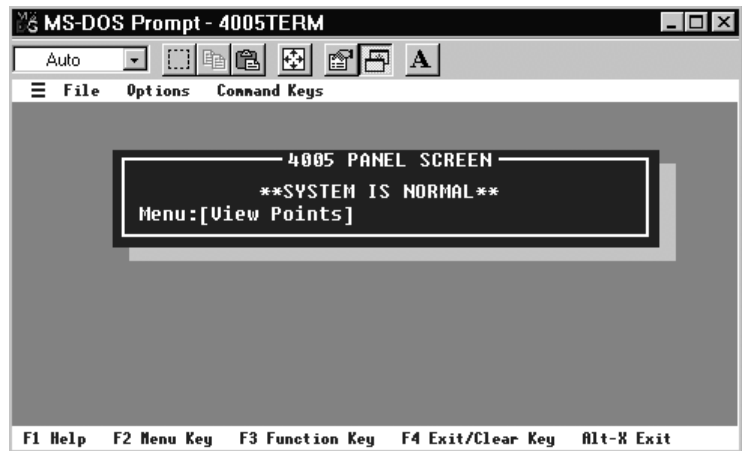

Figure 9. 4005 Panel LCD and PC Panel Screen Displays.
- a) Press **F2** (Menu) to start at the top of the Main Menu structure. Note that the PC screen shows the same information as is displayed on the 4005 LCD panel (see Figure 9).